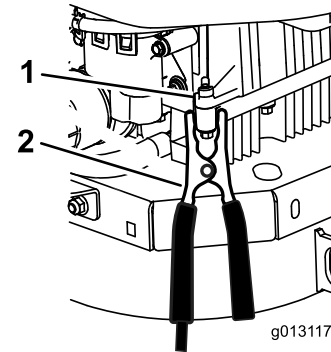

**Figure 64**
3. Connect the positive (+) cable to the positive (+) terminal of the discharged battery that is wired to the starter or solenoid as shown in Figure 64.